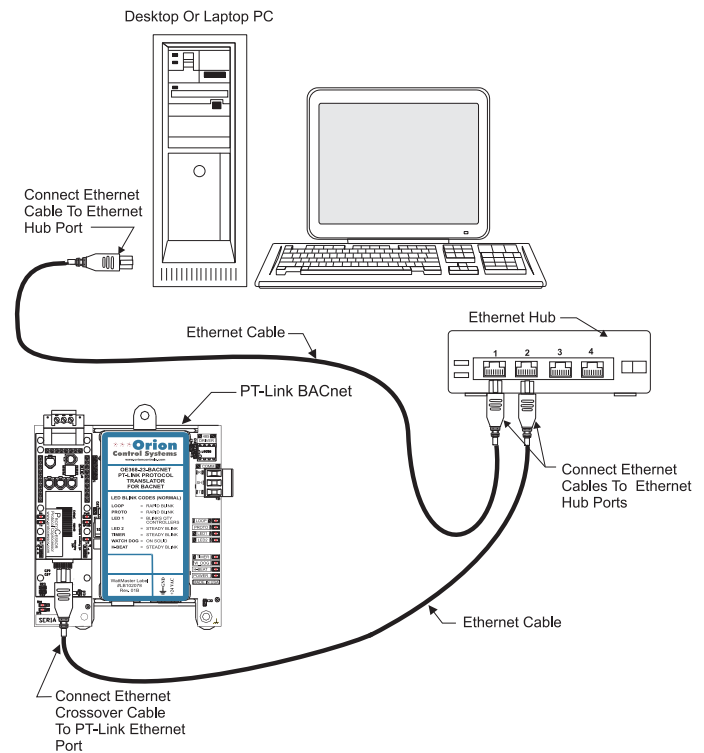

Figure 4: Connecting With Ethernet Cable & Hub
- 2.) You can also connect both your PC and the PT-Link II to an Ethernet Hub with standard CAT5 cables. **See Figure 4** for details.